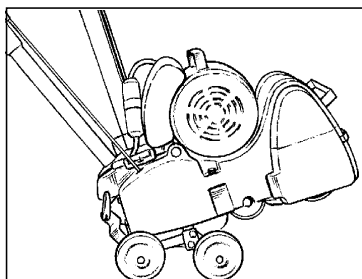

Figure 4
2. Hold the dolly in position using your foot and allow the machine to tip back and rest on the dolly wheels. (See figure 4)